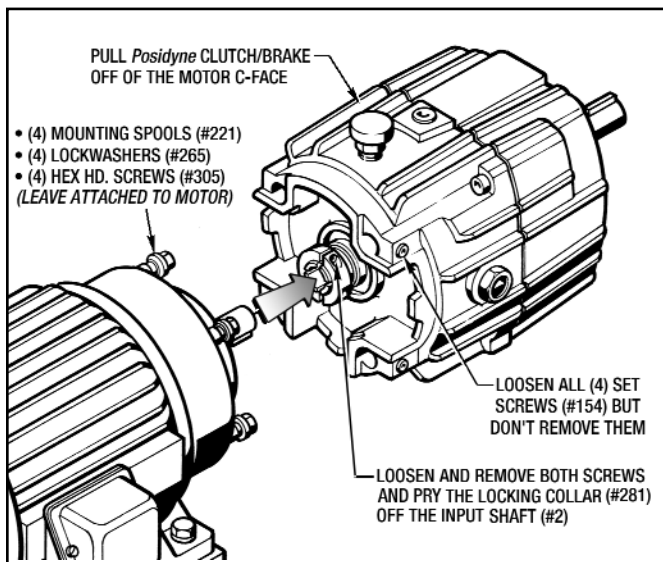

Figure 7.1 - Disconnecting the C-Face Motor
(See Figure 7.1 and 10.1)
1. Loosen the (4) Cone Point Set Screws (#154) in the Input Housing enough so the Drive Unit can be removed from the (4) Mounting Spools (#221), which are attached to the drive motor. Loosen the (2) Screws in the Locking Collar (#281). Pull the Drive Unit away from the motor, sliding the motor shaft out of the Quill Input Shaft (#2). (See Figure 7.1)
(See Figures 7.1 and 10.3)